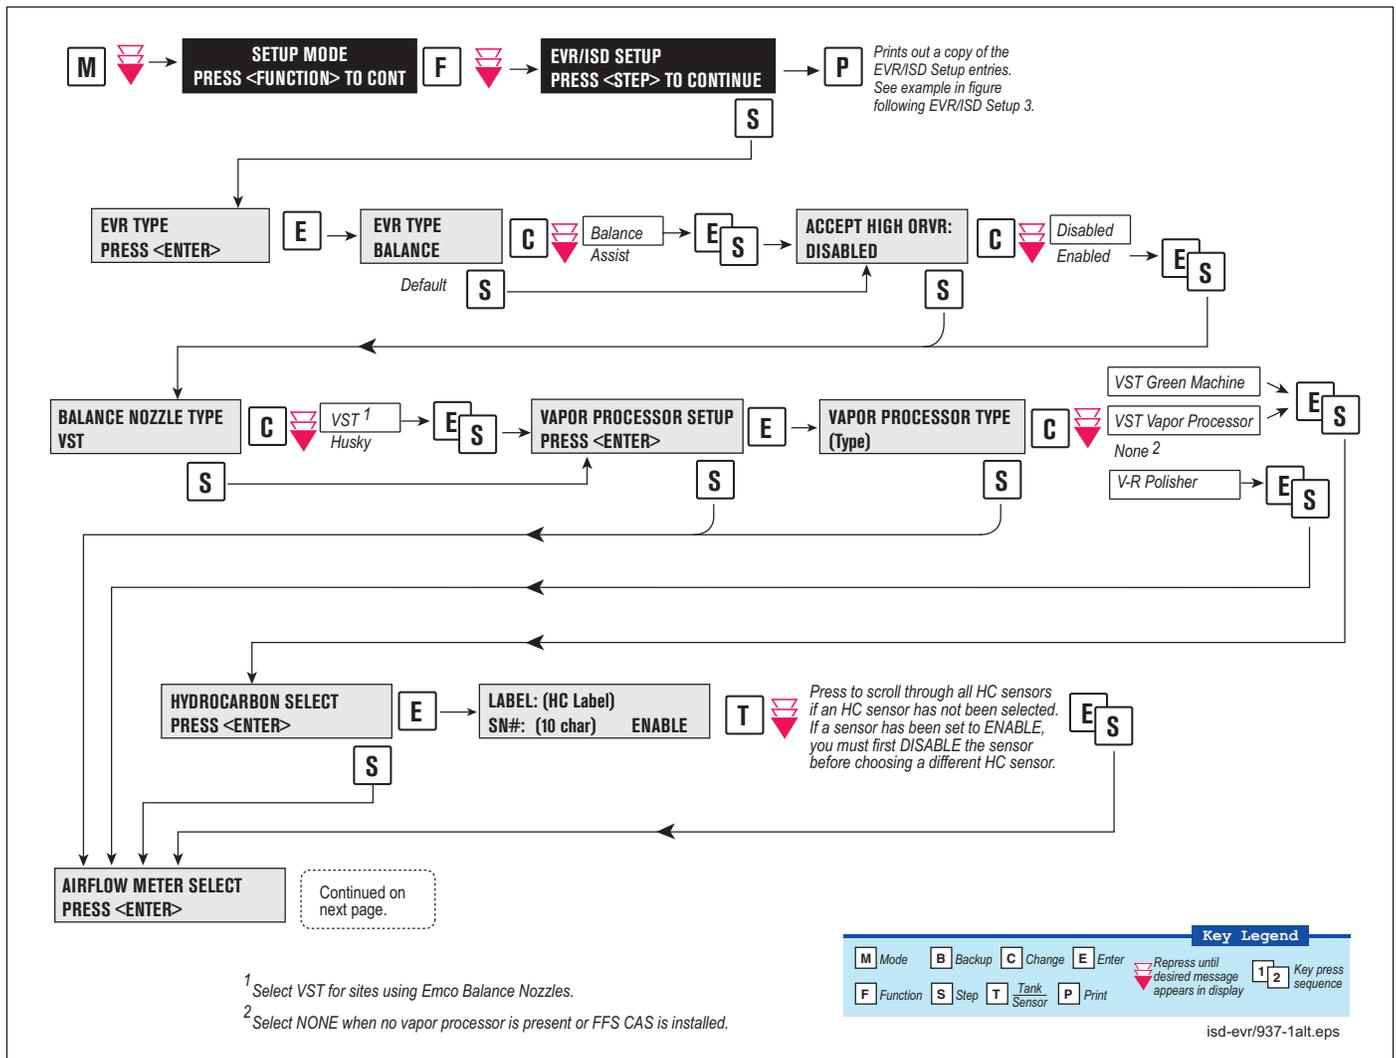
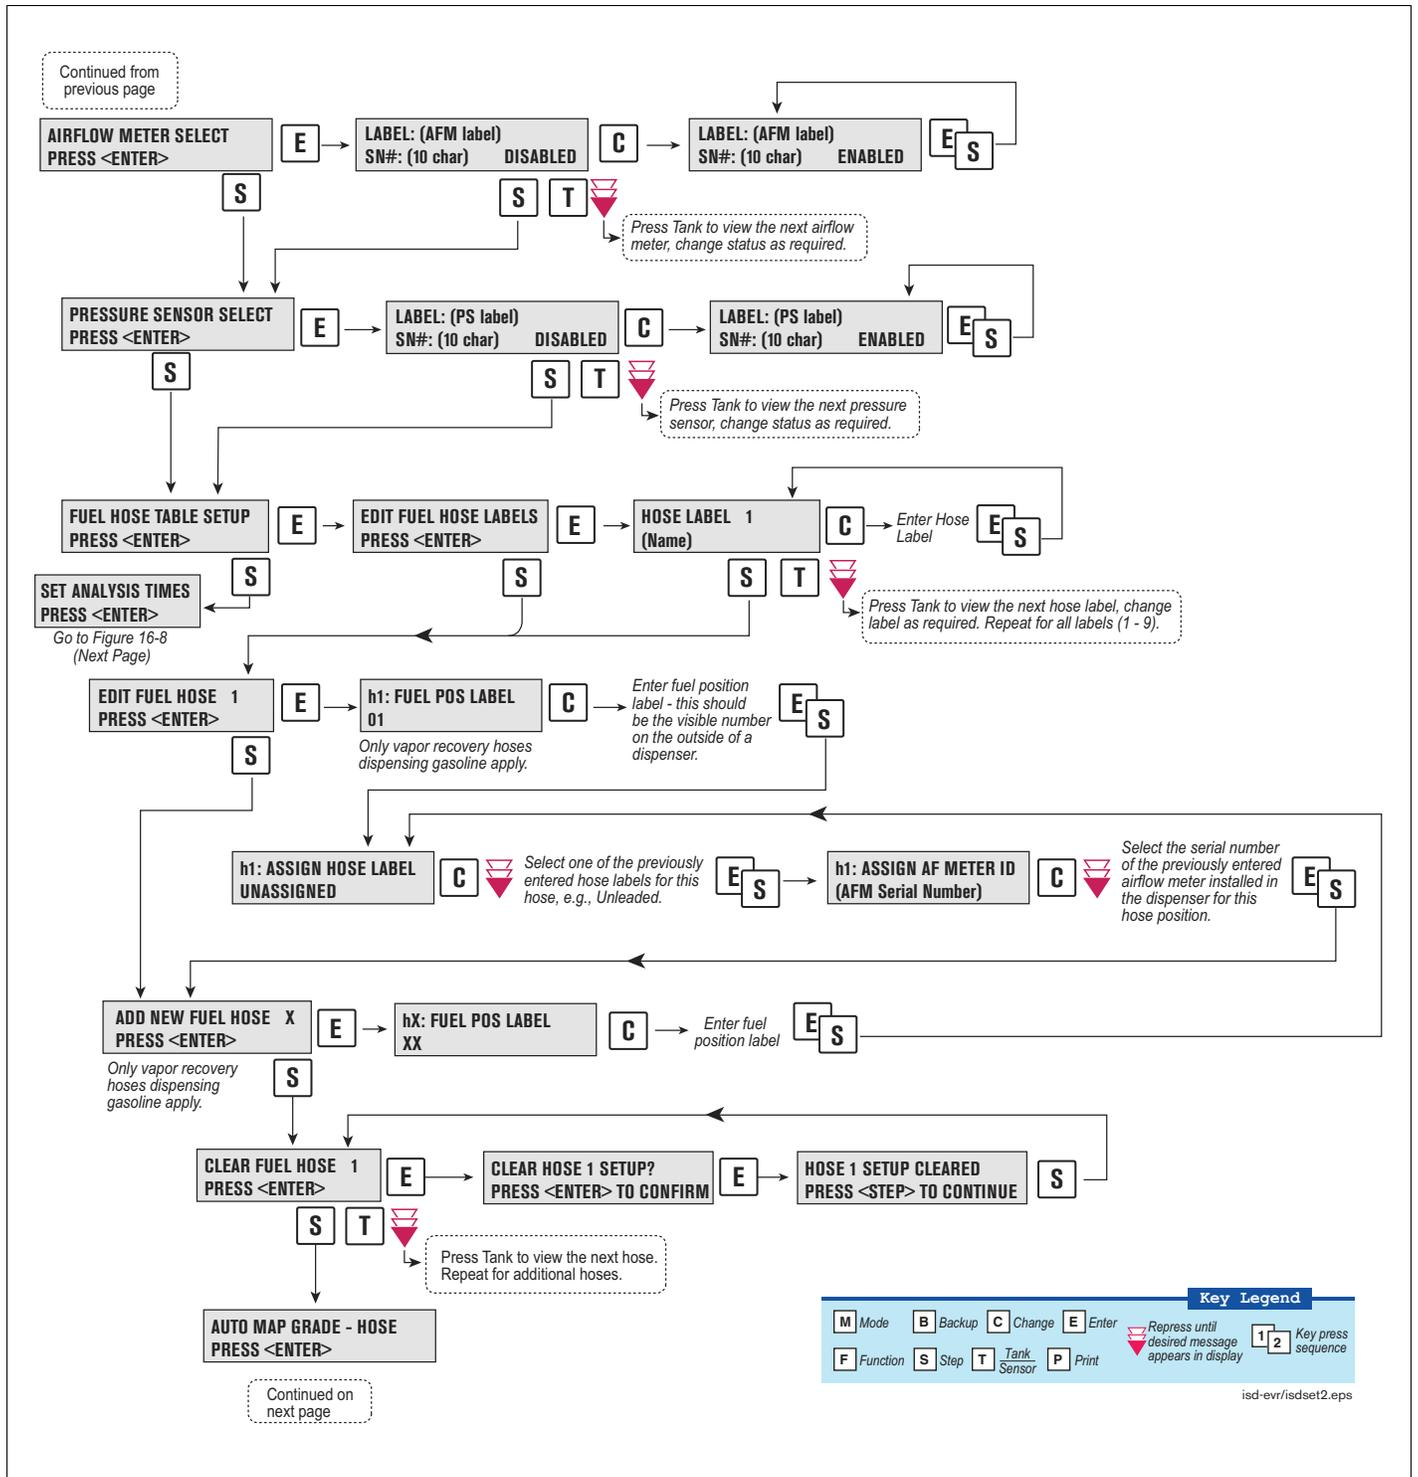
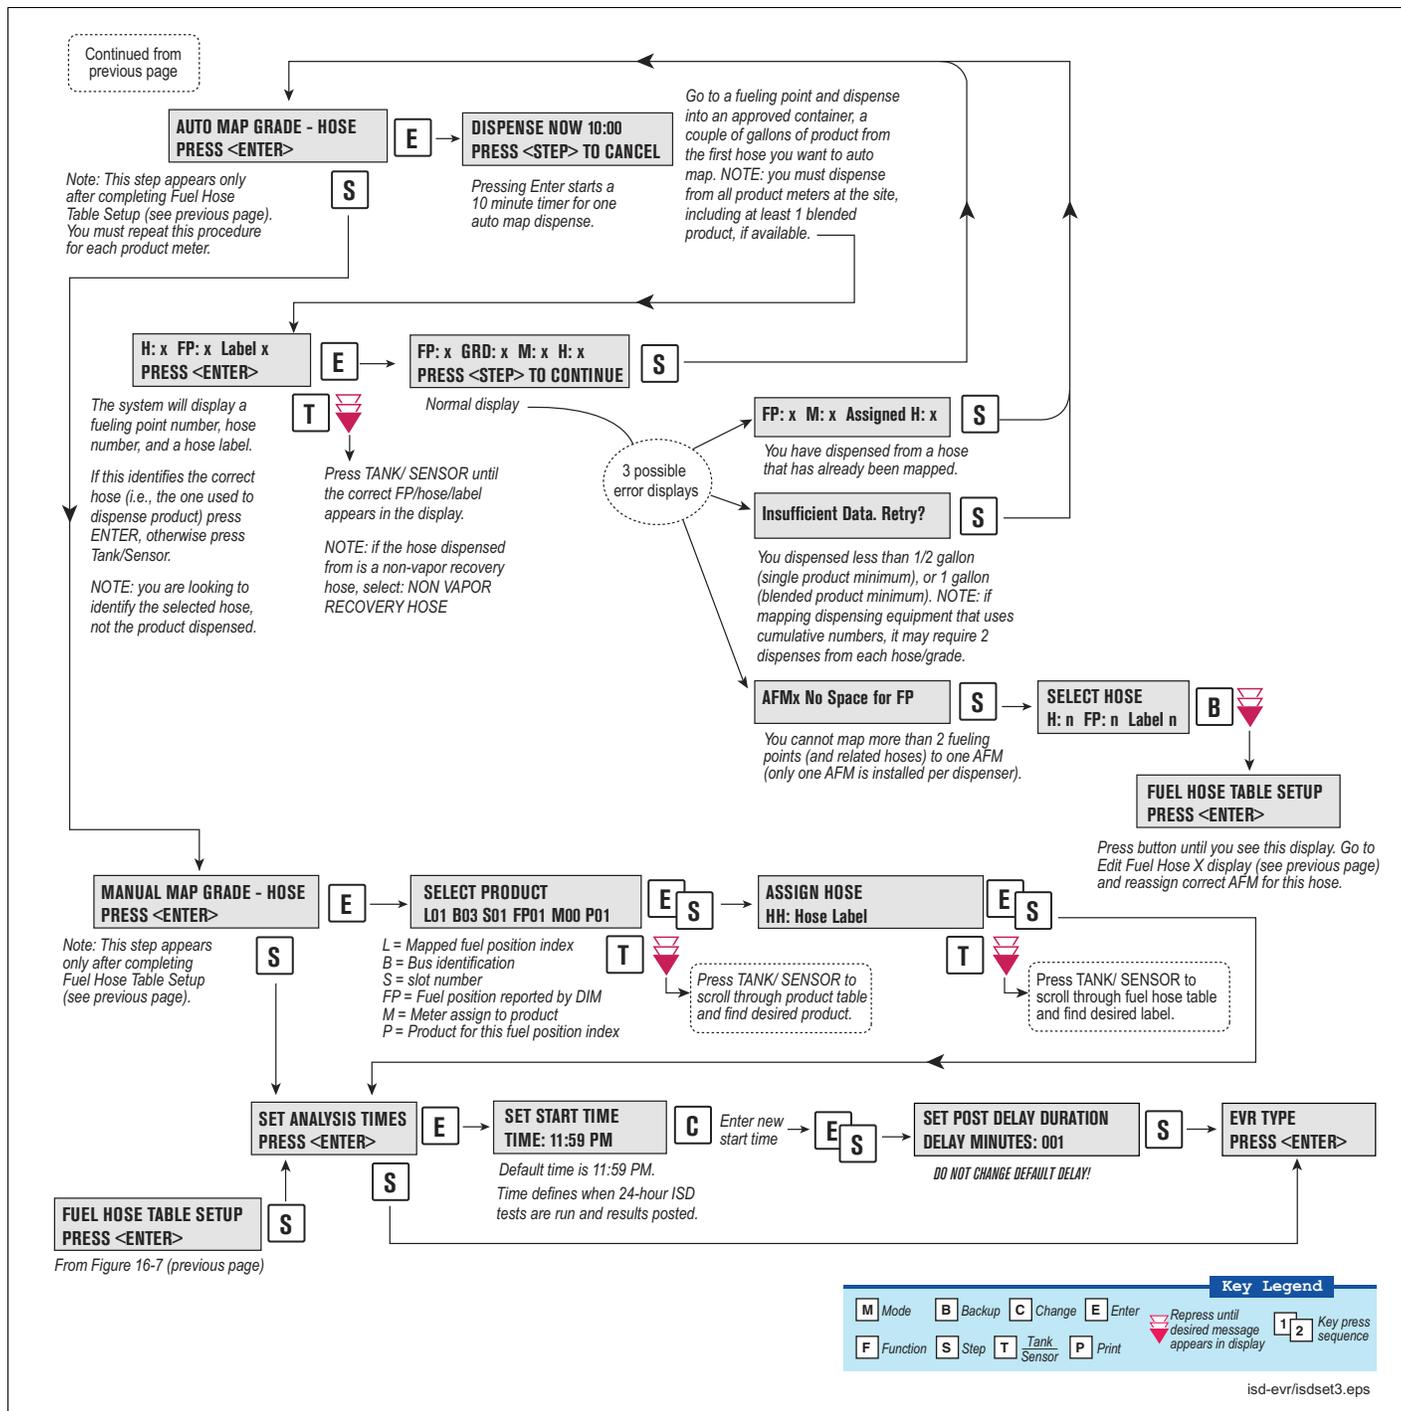

Figure 7. EVR/ISD Setup 1
Figure 8. EVR/ISD Setup 2
Figure 9. EVR/ISD Setup 3
- EVR/ISD Setup - All ISD sites (Figure 7, Figure 8 and Figure 9)
Figure 7 describes the first of the EVR/ISD setup programming diagrams.
Figure 8 describes the second of the EVR/ISD setup programming diagrams.
Figure 9 describes the last of the EVR/ISD setup programming diagrams.